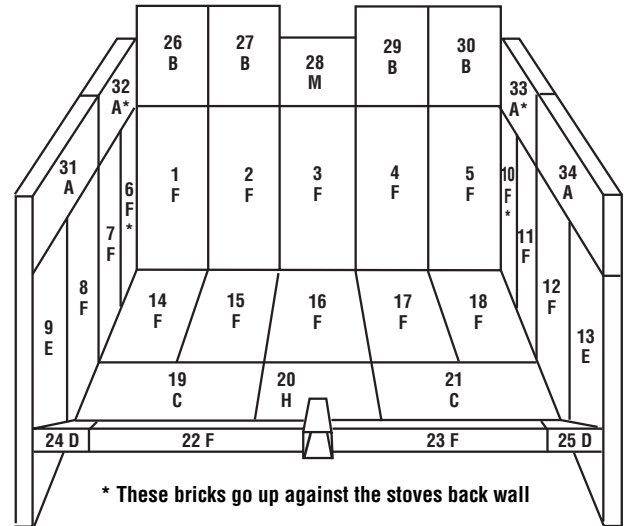

Figure 2
1. Install bricks #1-34 in the numbered sequence as shown in **Figure 2** (**Note:** Bricks 22-25 lean up against the lower air channel and butt against bricks 17-21 on the bottom of the stove).